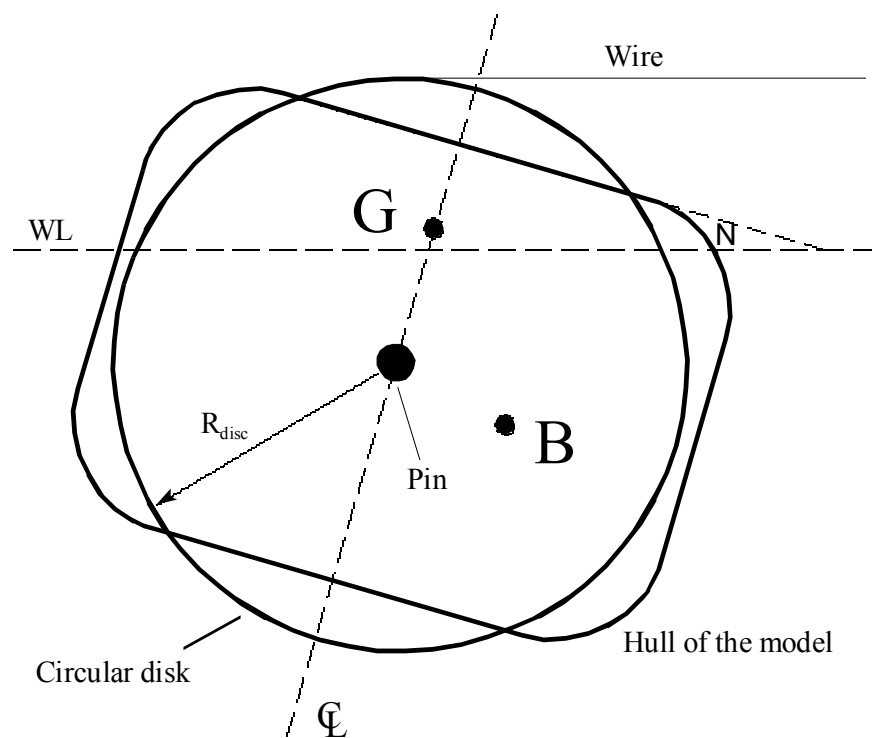

Figure 2 - Simplified View of Heeling Model
8. Figure 2 is a simplified diagram of the 27-B-1 model heeling in the tank.